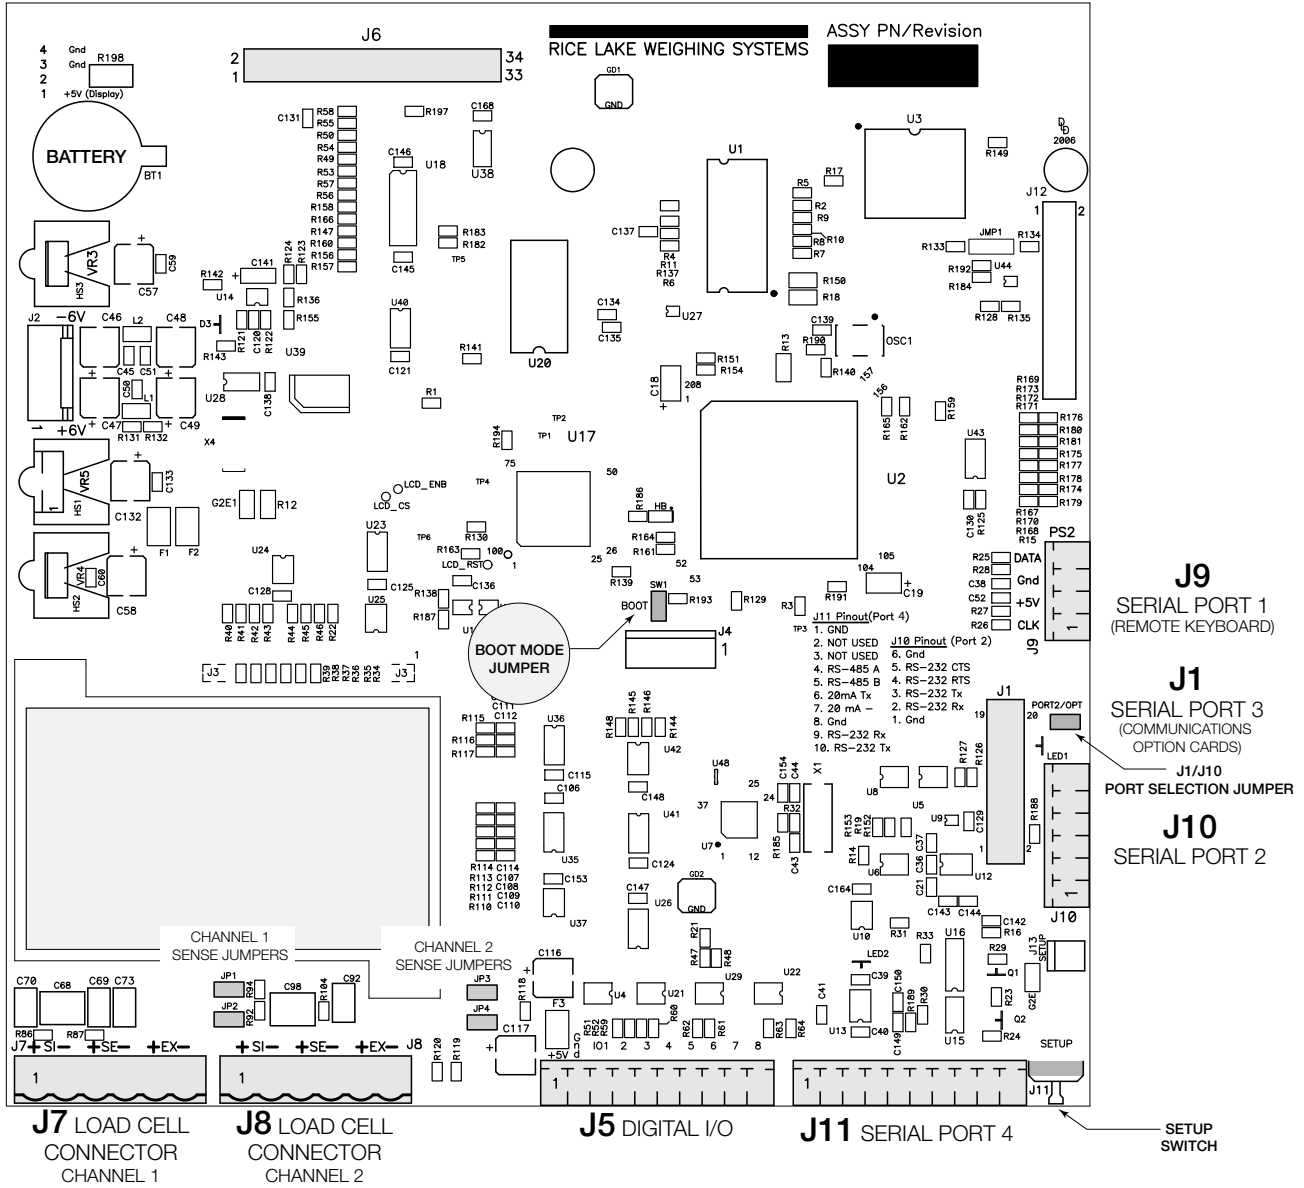

Figure 2-3. 820i CPU Board
Note Installation of option cards in connector J1 requires removal of the J1/J10 port selection jumper (see Figure 2-3 on page 9).
2. Carefully align the large option card connector with connector J6 on the CPU board (see Figure 2-3 on page 9) or J1. Press down to seat the option card in the CPU board connector.
3. Use the screws provided in the option kit to secure the other end of the option card to the threaded standoffs on the CPU board (see Figure 2-3).
Table 2-4 lists the slot numbers, CPU board connectors, and configuration assignments made for both onboard and expansion card functions in the 820i. See Figure 2-3 for connector locations.
See Figure 2-3 on page 9 for CPU board battery location and orientation (positive side up).